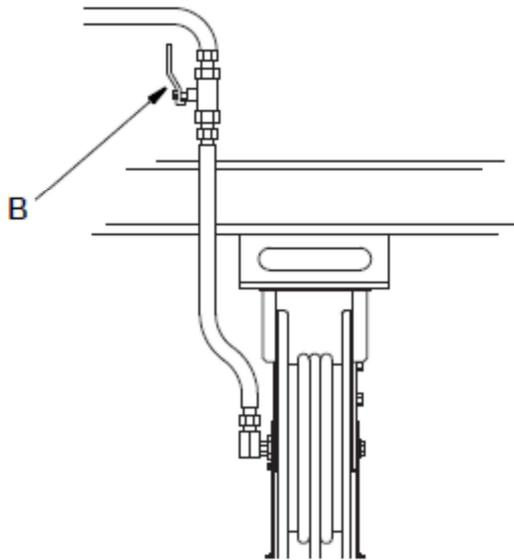

Fig. 3
5. Slowly open the stop valve (B, Fig. 3) at outlet point. Flush out a sufficient enough quantity of oil in order to ensure that the entire system has been flushed clean. Close the valve.